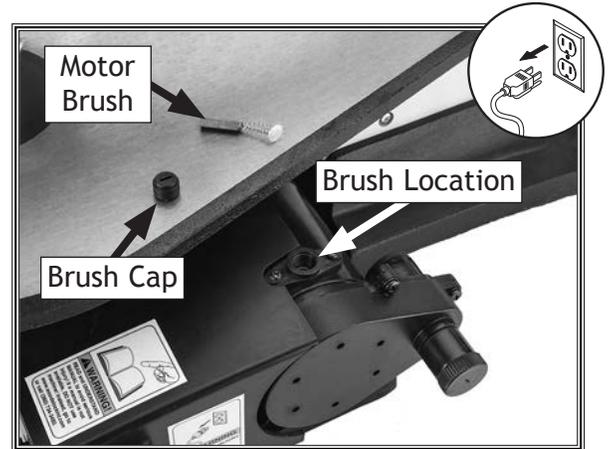

Figure 38. Upper motor brush location.
2. Remove upper motor brush cap and motor brush, as shown in **Figure 38**, then install new brush and replace cap.